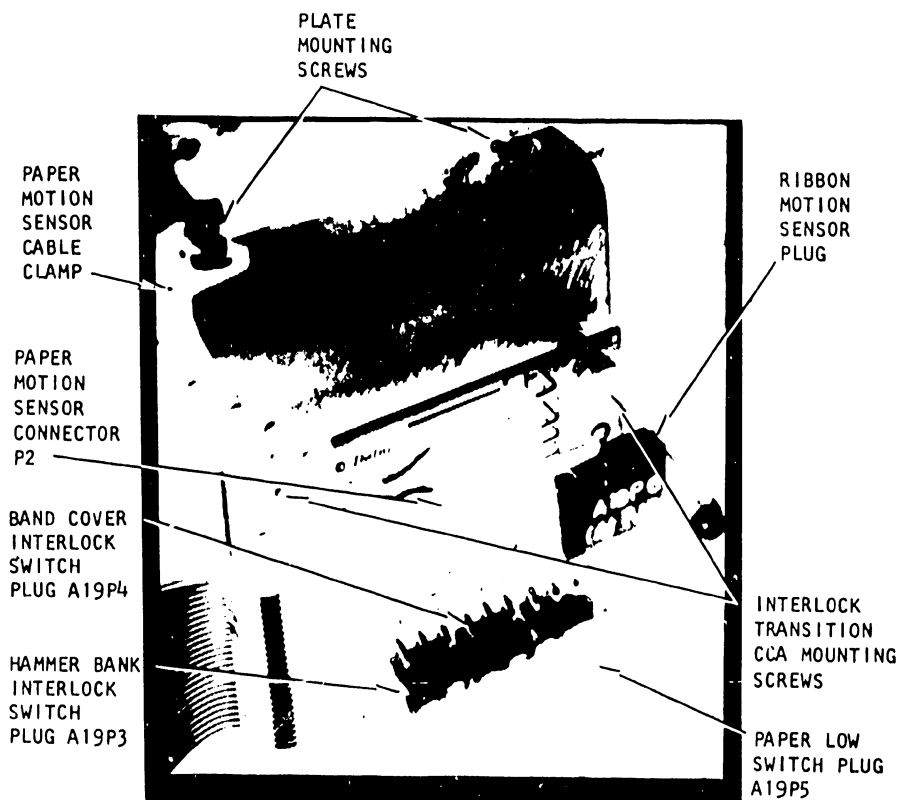

Figure 3-16. Interlock Transition CCA
- c. Remove the hammer bank interlock switch plug A19P3 from the Interlock Transition CCA. See **figure 3-16**.
- e. Open the hammer bank. Using an 8mm nut driver, remove the two (2) screws that secure the hammer bank mask and remove the mask.
### 3.4.6 Interlock Transition CCA Removal/Replacement (Figure 3-16)
- f. Mount the Interlock Transition CCA to its mounting plate with the two (2) screws removed in **step e**. See **figure 3-16**.
- g. Secure the Interlock Transition CCA and the paper motion sensor cable clamp to the printer casting with the two (2) screws removed in **step c**.